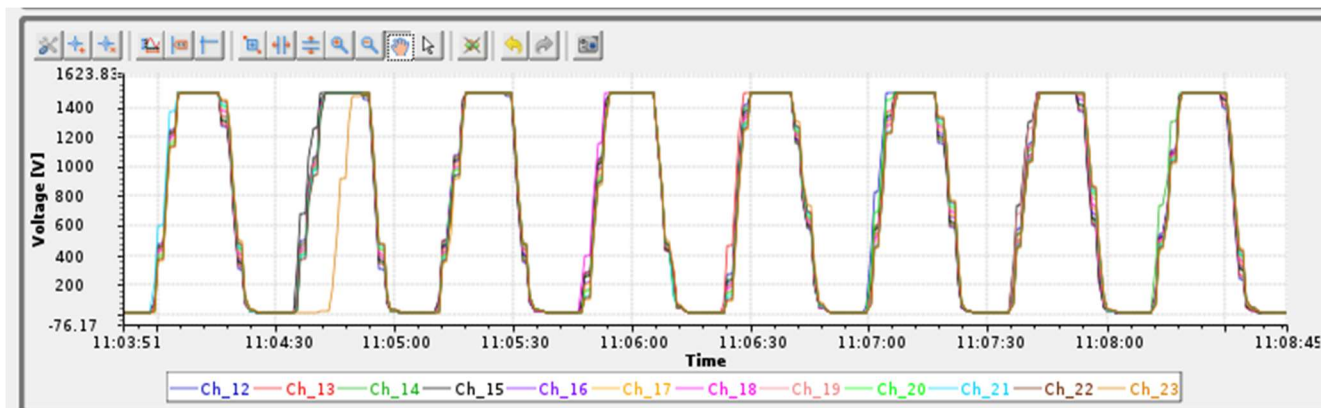
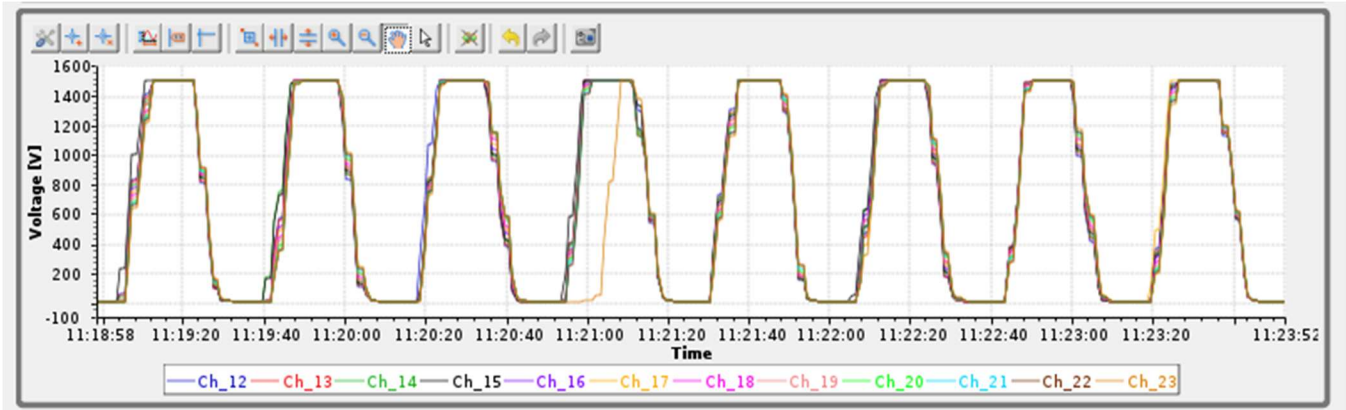

Fig.4. HV CAEN – Voltage Ramp Test CSS BOY screen shows the first channel 23 latency to ramp up
Fig.5. HV CAEN – Voltage Ramp Test CSS BOY screen shows the second channel 23 latency to ramp up
2. Channel 23 had exactly same latency ~ 10 sec and behavior as mentioned for channel 11, during the 100-cycle trial the latency for channel 23 was observed two times. See fig.4 and fig.5